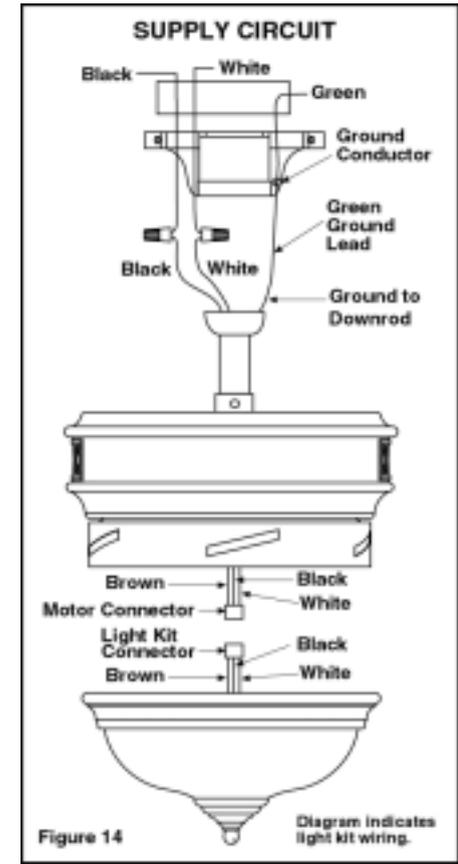

Figure 14
Step 1 Connect the Room Conditioner supply (black) wire to the black household supplied wire with wire nuts as shown in Figure 14.